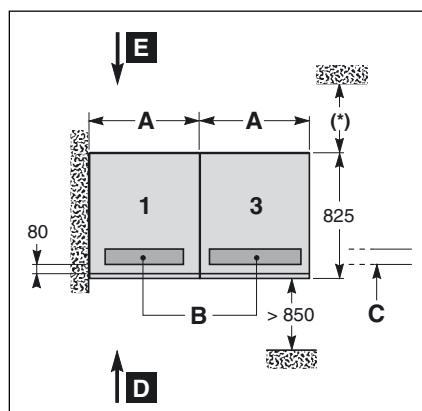

Fig. 5
- see figure 5 for a single-UPS MGE™ Galaxy™ PW unit with a single battery cubicle;
Key for figures 5 to 7: